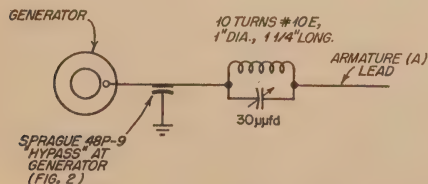

Fig. 4. Tuned trap to reduce generator noise on the 10 meter band.
In certain systems where it is impossible to eliminate the noise with these precautions a trap consisting of a 50 μfd . condenser in parallel with a coil wound of No. 10 wire and tuned to the operating frequency may be placed in series with the *A lead* at the generator. The trap should be tuned for maximum reduction of noise in the receiver as shown in Figure 4.
- 3—On ten and fifteen meters, a tuned wave trap placed in the generator lead (at the generator) usually helps. (Figure 4). Mount the trap to a piece of insulating material and fasten it to the generator. Start the motor, and tune the trap for minimum generator whine heard in the receiver.